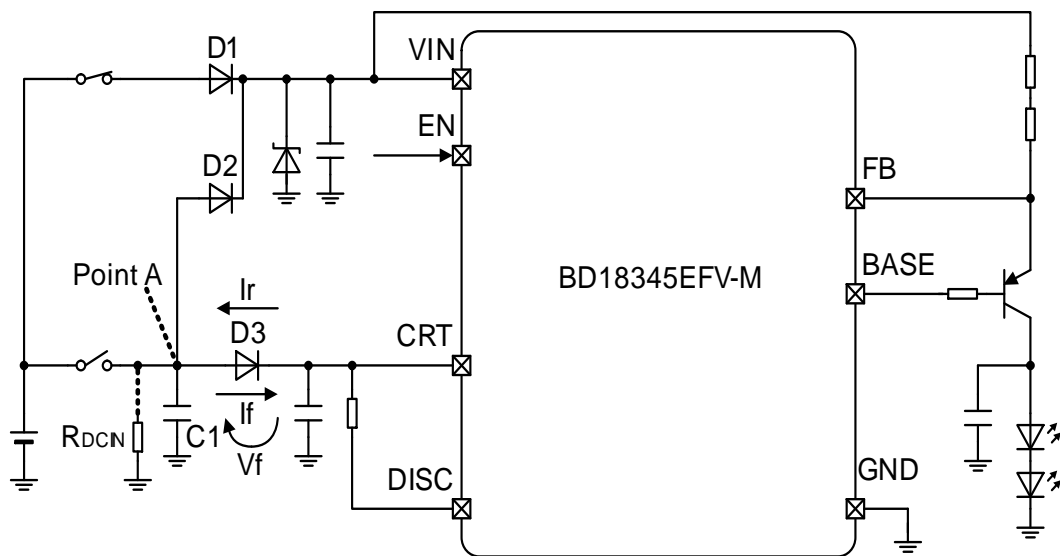

Figure 18. How Reverse Protection Diode Affects the CRT Pin Ramp Up/Down Time
① During the PWM dimming operation mode, Point A on Figure 18 is Hi-Z.